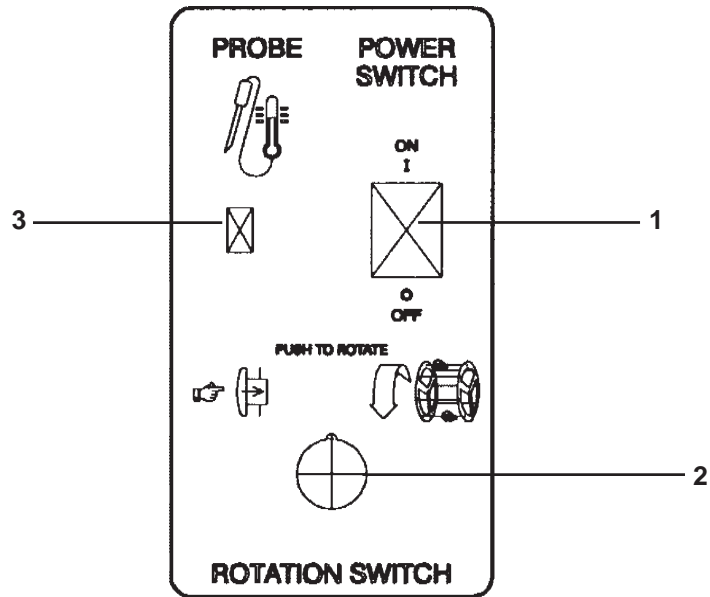

Figure 3-1
### **3-2. CONTROLS AND SWITCHES** (Refer to Figures 3-1 and 3-2)
**3-2. CONTROLS AND SWITCHES** (Refer to Figures 3-1 and 3-2)